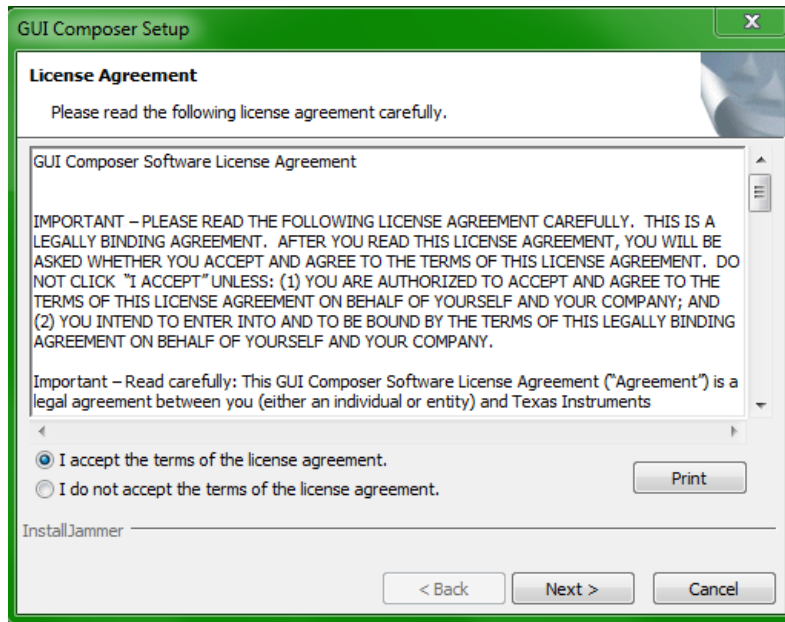

Figure 1 - License Agreement
- a. Accept the license agreement (Figure 1)